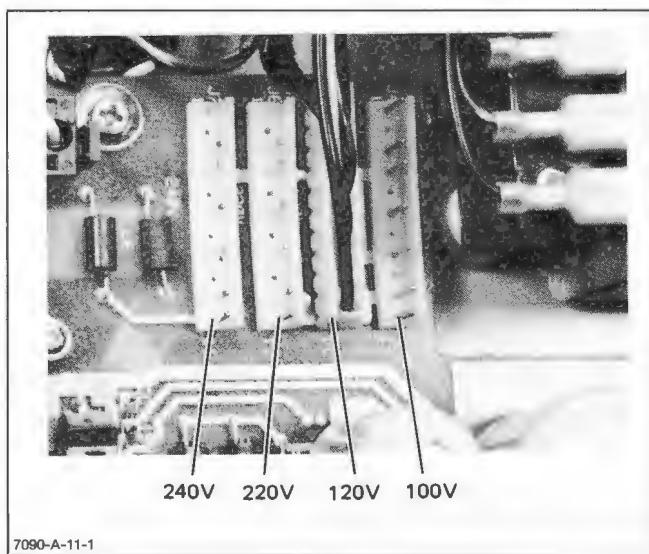

Figure 2-5. Voltage Selection
- k. Remove primary cover shield and connect transformer primary connector to the appropriate voltage jack. See Figure 2-5.